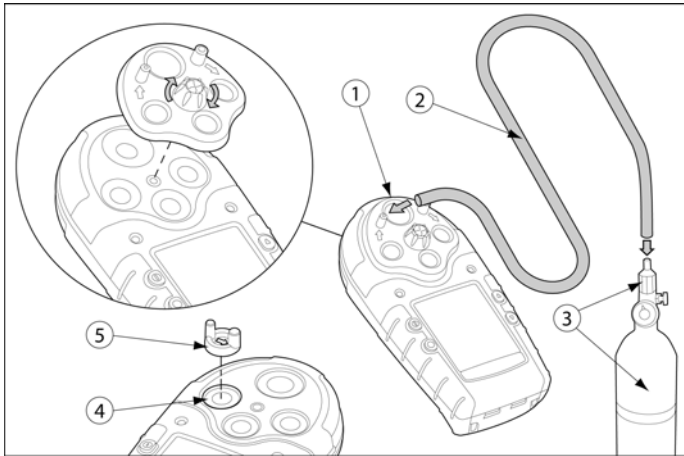

Figure 3. Applying Gas to the Sensors
The calibration cap, single gas calibration cap, and hose are shipped with the detector. Refer to Figure 3, and Table 11, for installation.
If an O₃ or ClO₂ sensor is located in the Toxic 2 position (refer to Figure 3, and Table 11), a single gas calibration cap must be used to ensure accurate calibration.
1. Insert the cap into the Toxic 2 sensor position on the detector (refer to Figure 3). Press firmly until the release tabs click.
Attach the calibration cap (or single gas calibration cap for O₃ and ClO₂) and apply gas to the sensor(s). To attach caps, refer to Figure 3.